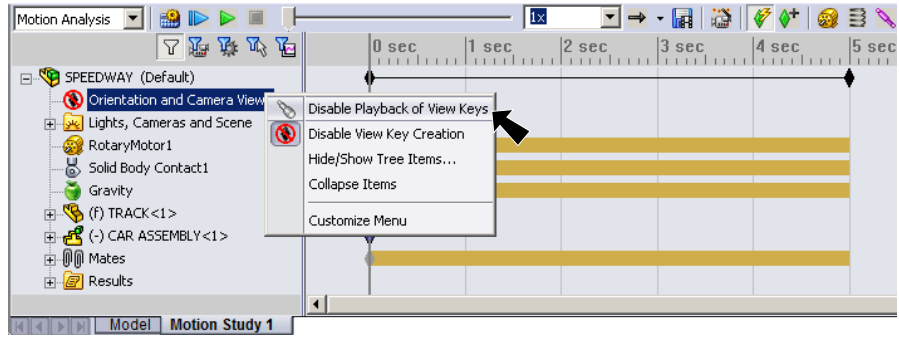

Fig. 22
Step 1. Right click  **Orientation and Camera Views** in the Motion Manager design tree and click **Disable Playback of View Keys**, Fig. 22. Disabling View Keys will allow viewing Motion Study from any view.